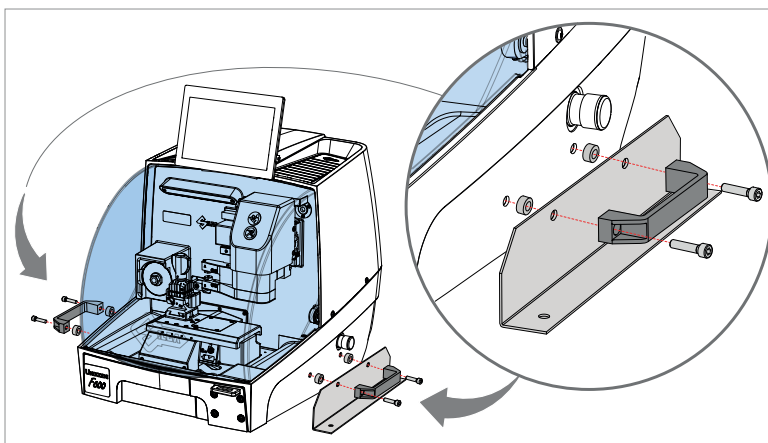

Fig. 22
- 1) After positioning, release the machine from the brackets by removing screws, handles and spacers (Fig. 22).